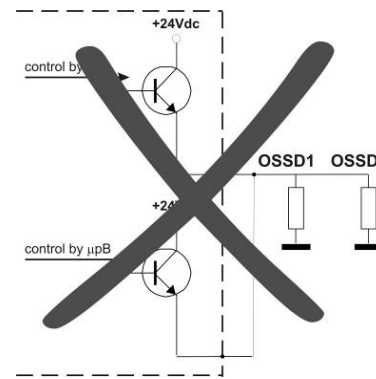

Fig. 19
On the front of the receiver (RX) there is a cover flap (Fig. 19), which is easy to open using a screwdriver and enables access to a row of DIP switches for the following configurations: